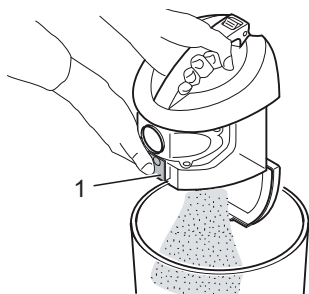

Fig. 17
4. Push the empty button (Fig. 17/1). The bottom opens and the dust falls into the dustbin.